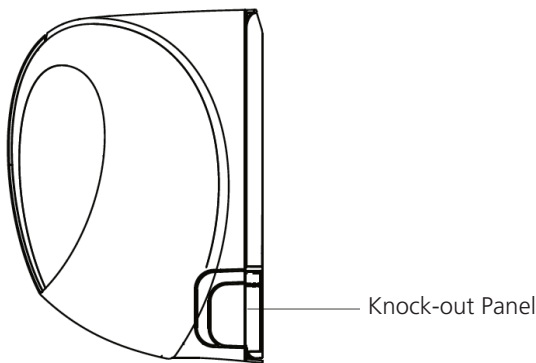

Fig. 4.3
2. If the wall hole is behind the unit, keep the knock-out panel in place. If the wall hole is to the side of the indoor unit, remove the plastic knock-out panel from that side of the unit. (See **Fig 4.3**). This will create a slot through which your piping can exit the unit. Use needle nose pliers if the plastic panel is too difficult to remove by hand.